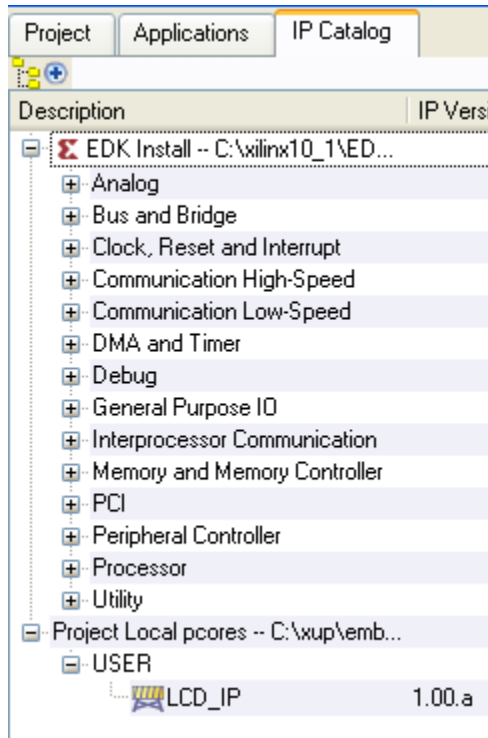

Figure 1-46. IP Catalog Updated Entry
- ⑦ Click **Finish** to close the wizard
- ⑧ Click on **IP Catalog** tab in XPS and observe that **lcd_ip** is added to the **Project Local pcores** repository (**Figure 1-46**).